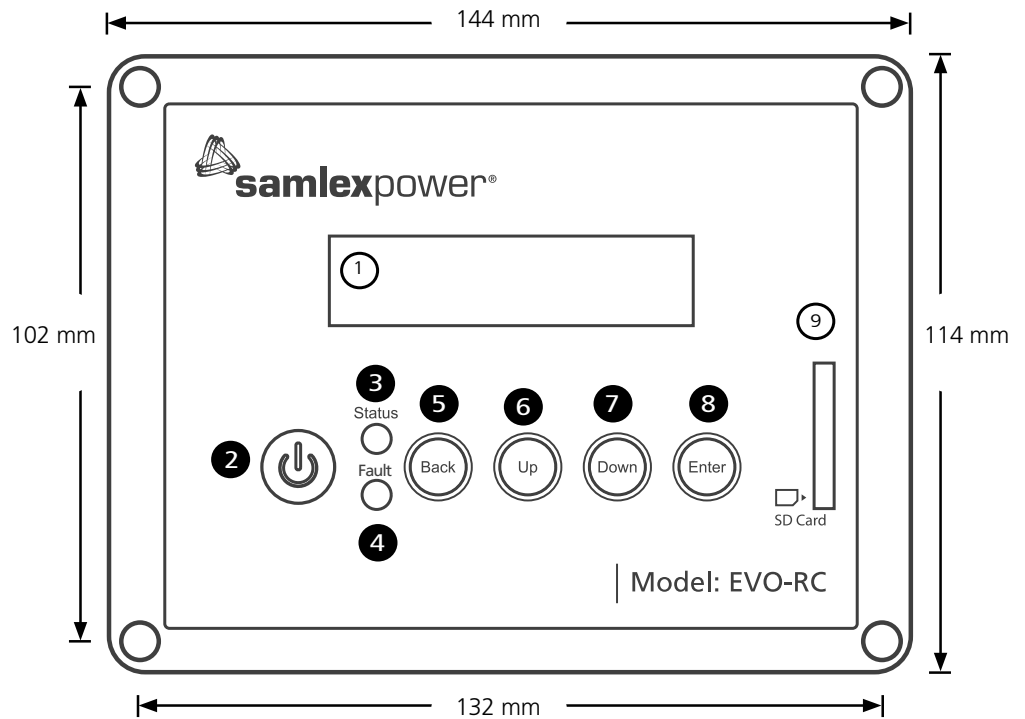

Fig 1.1 Optional Remote Control EVO-RC - Layout & Dimensions
The EVO-RC provides menu items and adjustable settings to configure your EVO™ Inverter/Charger to your specific parameters. Please refer to the layout at Fig 1.1.
b) Please note that this unit is designed to **POWER ON AUTOMATICALLY** if (i) AC voltage of $70V \pm 5 VAC$ is available at the AC Input Terminals and (ii) DC input voltage is $> 12V$ for 12V versions of EVO™ and $>24V$ for 24V versions of EVO™. If the AC input voltage and frequency are within the programmed limits, the unit will automatically operate in "Charging Mode". If the AC input voltage and frequency are not within the programmed limits, the unit will operate in "Inverting" Mode. Further, as long as AC input voltage $> 70 \pm 5 VAC$ is present, the unit **CANNOT BE POWERED OFF** using the ON / OFF Button on the front panel of the unit or on the Remote Control EVO-RC. Switch OFF the AC input first if the unit is required to be powered off. However, if the unit is in "Fault Mode", it will be possible to power OFF the unit with the help of the ON/OFF Push Button on the front panel of the EVO unit (11, Fig 2.1 in Owner's Manual for EVO) or, with the On/Off Key on the EVO-RC Remote Control (2, Fig 1.1)
c) Before proceeding, confirm that the unit is NOT in "Standby" Mode. If it is in "Standby Mode", the "Status" LED (3, Fig 1.1) will flash once every 5 sec and the LED screen will display one of the "Standby Mode" Screens show in Figs 3.2 (Column 2, GROUP 1). Press the On/Off Push Botton (2, Fig 1.1) on the EVO-RC to exit the "Standby Mode" to the current operating mode. Refer to Section 3.4 for more details on "Standby Mode".
- From any Operating Mode Screen ("Inverting", "Charging" or "Power Save"), press the On/Off Push Key (2, Fig 1.1) momentarily (0.1 sec)